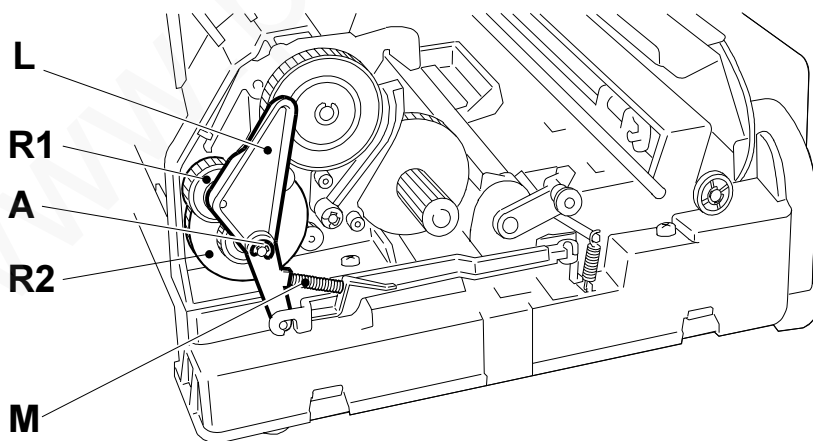

Fig. 7-25
- 2) Remove bracket **A** and extract rocker **L**, taking care not to lose spring **M** and wheels **R1** and **R2** (Fig. 7-25):